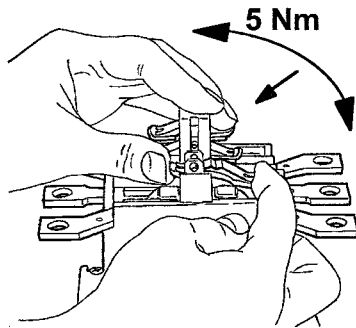

Fig. 1
3TK10 e 11 (Fig.1)
3TK10 y 11 (Fig.1)
- Replace coil according to Fig. 1.